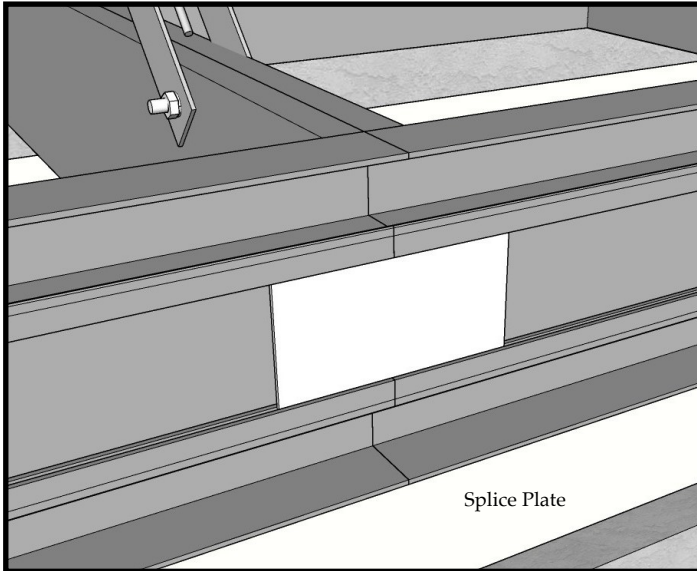

Fig 8
7. If multiple frames are used to complete one canopy run, raise the adjacent frame to the desired height to sit in lower brackets (#9), clamp frames together, bolt or snap frames together, and attach canopy to brackets as mentioned in step 4. Make sure the Splice Plates (#5) are in place and secured with a dab of caulk (fig 8).